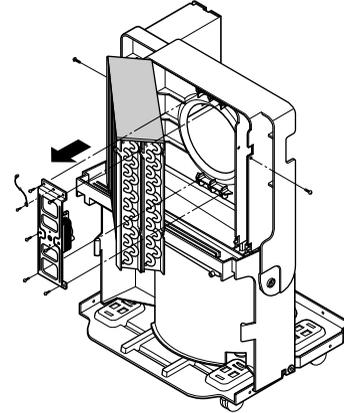

Figure 22
4. Unfasten 3 screws that secure the Motor and earth wire. (See Figure 22)